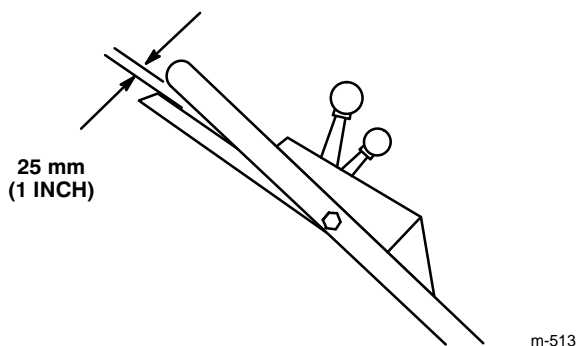

Figure 23
3. **CHECK ADJUSTMENT**—Slowly pull mower backward while control bar is gradually moved toward handle. Adjustment is correct when rear wheels stop turning and control bar is about 25 mm (1 inch) from handle (Fig. 23).